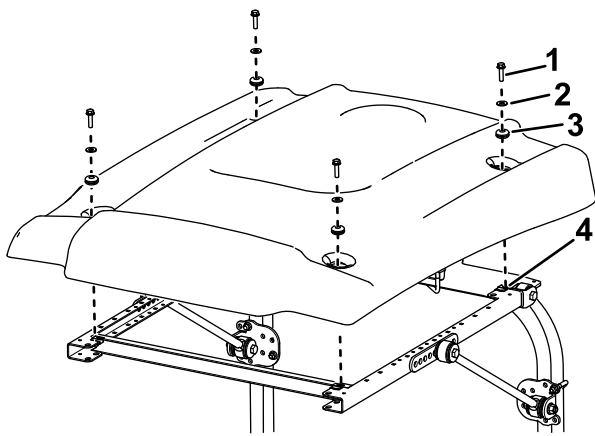

Figure 35
- While aligning the mounting holes, position the sunshade onto the frame as shown in Figure 35.
16. Loosely mount each corner of the sunshade to the frame with a flange-head bolt (5/16 x 1 inch), a small washer, and a grommet (Figure 35).